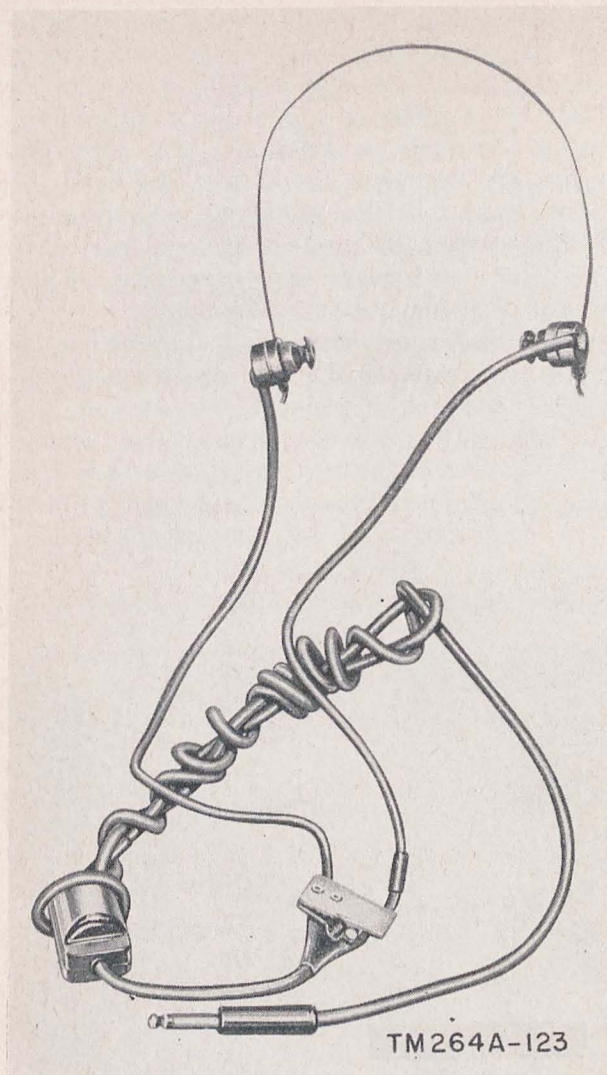

Figure 11. Headset HS-30-U and Cord CD-605.
*t. Headset HS-30-U* (fig. 11). Headset HS-30-U is a lightweight headset of 256 ohms impedance. Cord CD-605, which includes a coil, is